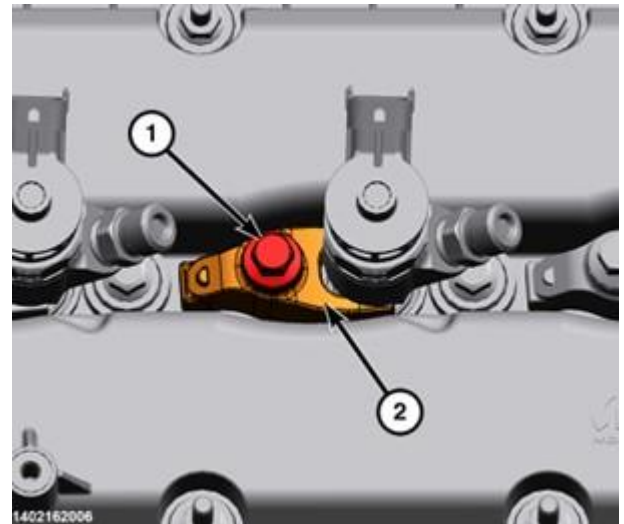

Figure 127 – Fuel Injector Clamps
- 65. Remove the fuel injector clamp bolts (1) and the fuel injector clamps (2) (Figure 127).